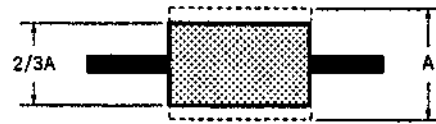

Fig. 1
- (1) Play back the alignment tape for tracking.
- (2) Set the SEL switch of the Track Shift Tool to ON. Turn the Track Shift Knob and set the amplitude of the RF waveform to two-third position. (fig. 1)